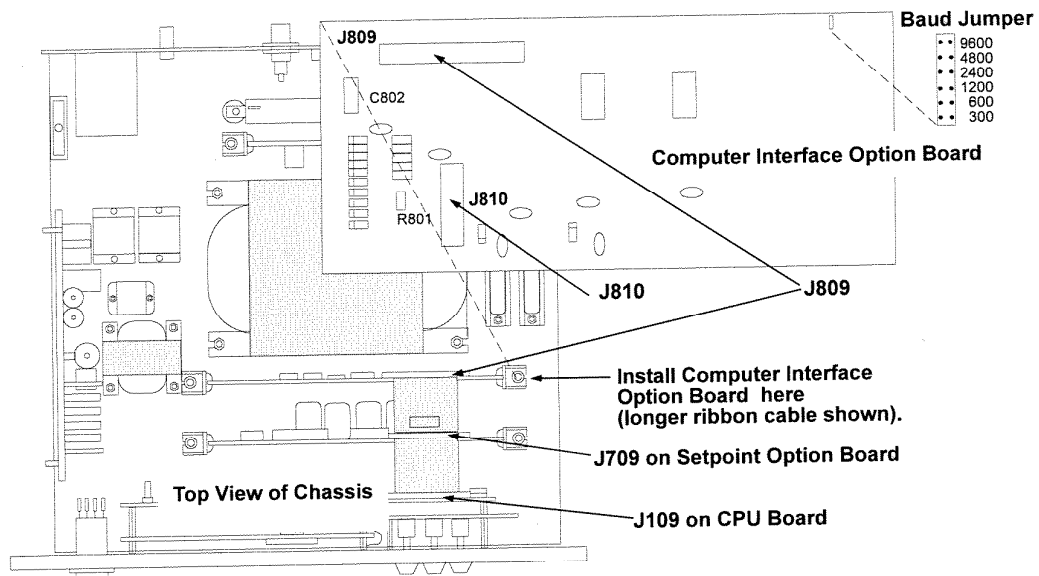

Figure 2-7. Installing the Computer Interface Board
3. Set the baud jumper (Figure 2-7). Install a jumper across the appropriate baud rate for your application.
4. Plug the other end of the cable into J810 on the computer option board (Figure 2-7), matching the arrows and positioning the cable with the colored stripe on top.
Installing the Computer Option with the Setpoint Option installed. If the 2-position short ribbon cable is installed on the setpoint board discard it. Plug the 3-position longer ribbon cable (supplied with the computer interface option) into J109 on the CPU board, J709 on the setpoint board, and J809 on the computer interface board (Figure 2-7). Pin 1 should be closest to the left side of the chassis when facing the rear panel.